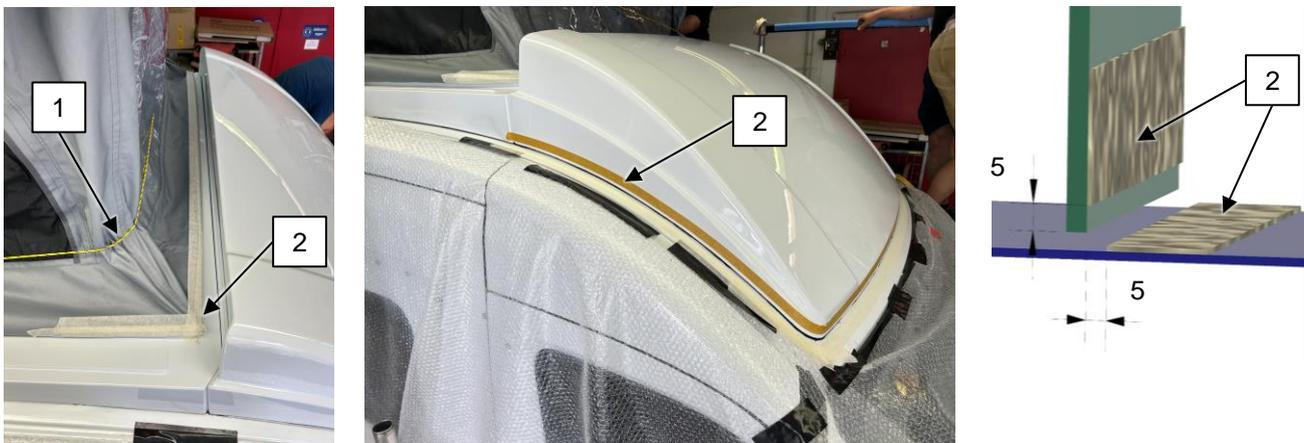

Abb. 4-1: Masking the sealing seam [G0001642]
- The tent bellows should be tied back (s. Abb. 4-1, 1) and protected with adhesive tape (2) or film if necessary.
- The sealing seam on the front spoiler should be taped: To do this, apply the adhesive tape (2) at a distance of at least 5 mm from the gap on the front spoiler and the vehicle roof.